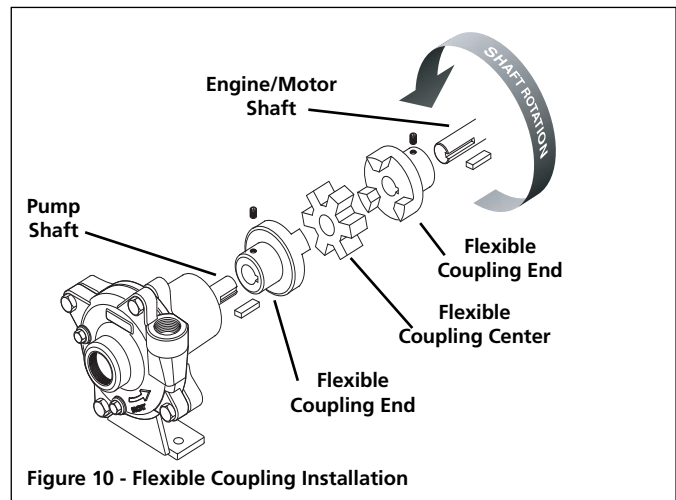

Figure 10 - Flexible Coupling Installation
1. Slide the flexible coupling ends onto the motor/engine and pump shafts as far as possible (see Figure 10).
4. When aligned, slide the flexible coupling ends over the flexible coupling center; then secure the flexible coupling ends to the motor/engine and pump shafts (see Figure 10).